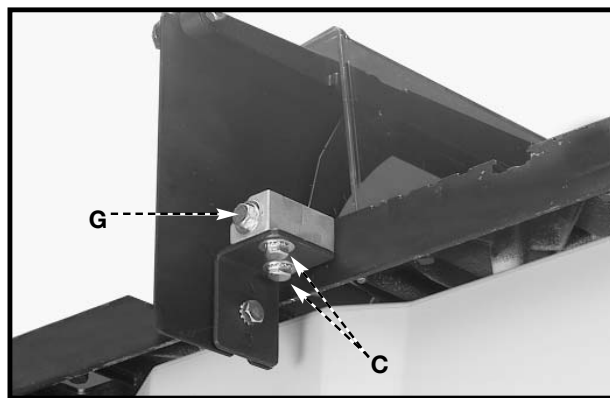

Fig. 25
9. When the splitter is properly aligned with the saw blade, tighten the screws (C) and (G) Fig. 25.